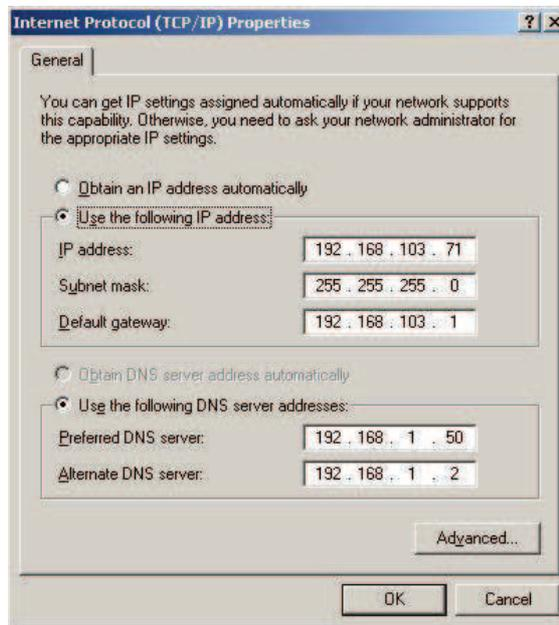

Figure 2.6 – Change of the IP Address
7. Choose the **Internet Protocol** option (see Figure 2.6 below) and click the **Properties** button.